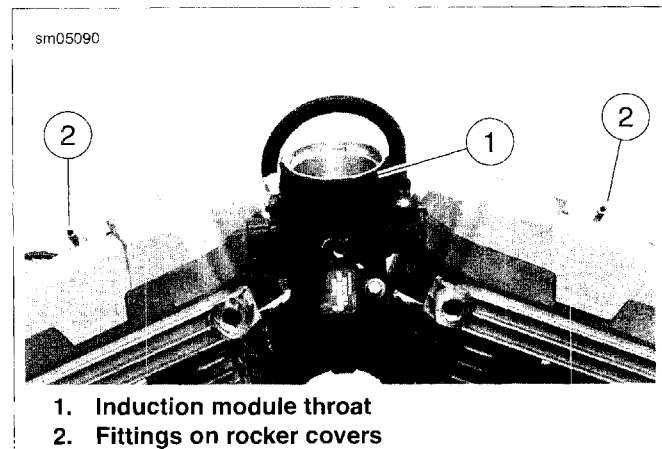

Figure 4-3. Airbox Connections
3. See Figure 4-3. If removed, install interface grommet on induction module. Ensure it is completely seated on the throat (1) of the induction module.
4. While holding airbox in approximate installed location, connect crankcase vent hoses to the fittings (2) on the front and rear rocker covers. Ensure clamps are in place.